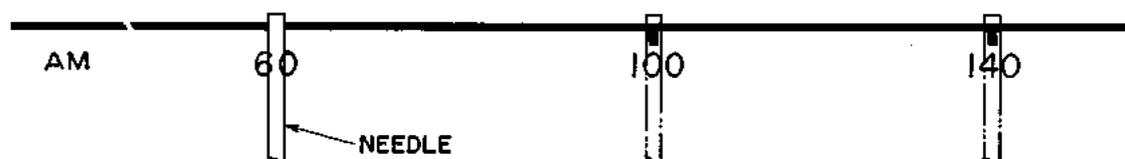

Fig. 17
- 3) Set Receiver SELECTOR to AM and tuning indicator needle to 600 kHz. (Refer to Fig. 17)
- 5) Set the oscillation frequency of AM S.G. and tuning indicator needle of Receiver to 1,400 kHz. (Refer to Fig. 17)
- 3) Set the oscillation frequency of the AM S.G. to 600 kHz (400 Hz 30% internal modulation). Set Receiver SELECTOR to AM and the tuning indicator needle to 600 kHz. (Refer to Fig. 17)
- 6) Set the oscillation frequency of AM S.G. and tuning indicator needle of Receiver to 1,400 kHz. (Refer to Fig. 17)
- 9) Set the oscillation frequency of AM S.G. and tuning indicator needle of Receiver to 1,000 kHz. (Refer to Fig. 17)